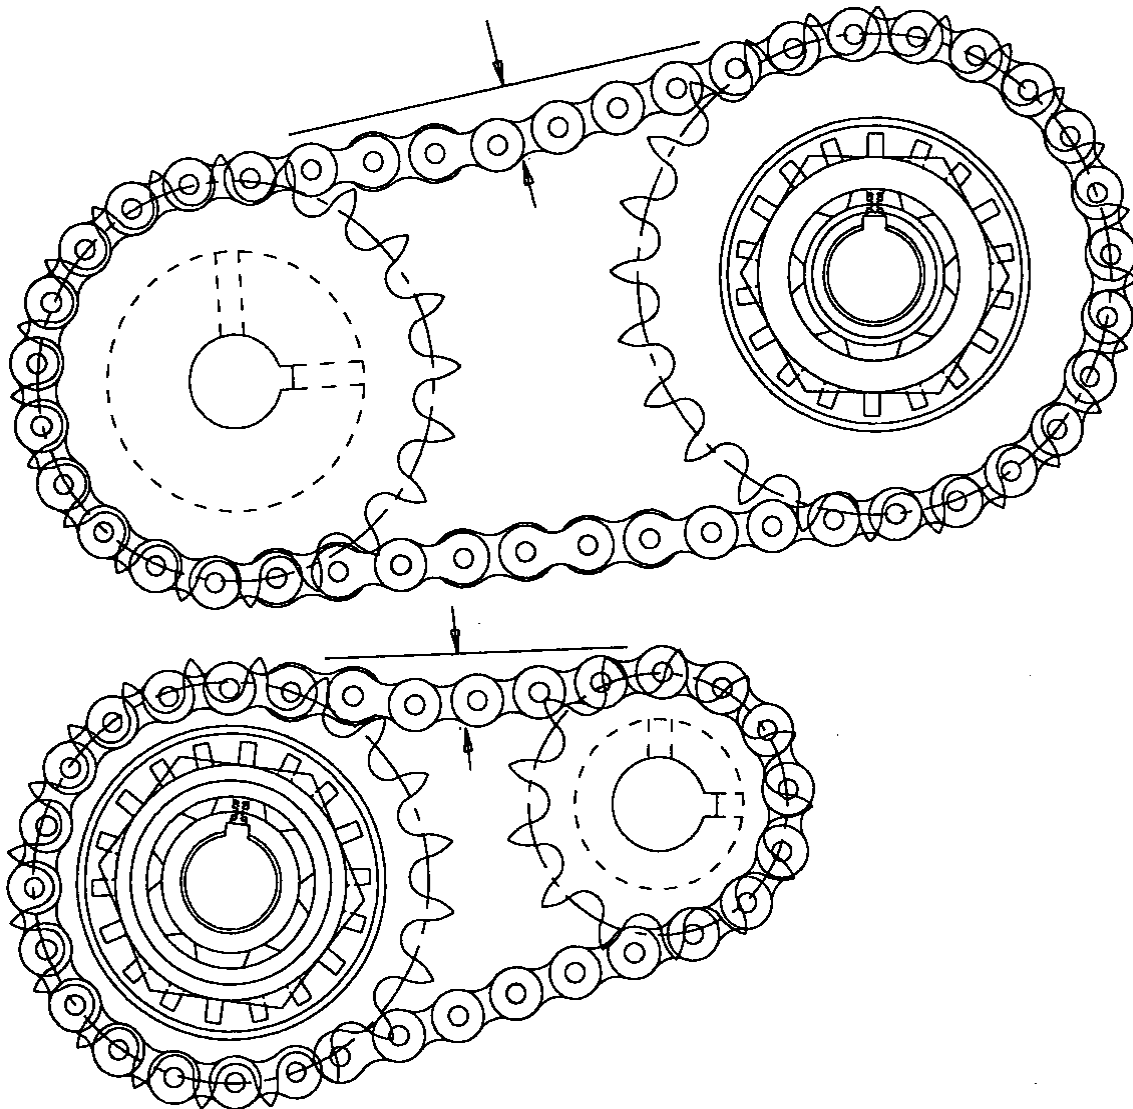

Figure 5
- Check chain sag according to figure 5, page 23
- Replace chain if stretched beyond the limits shown in figure 5